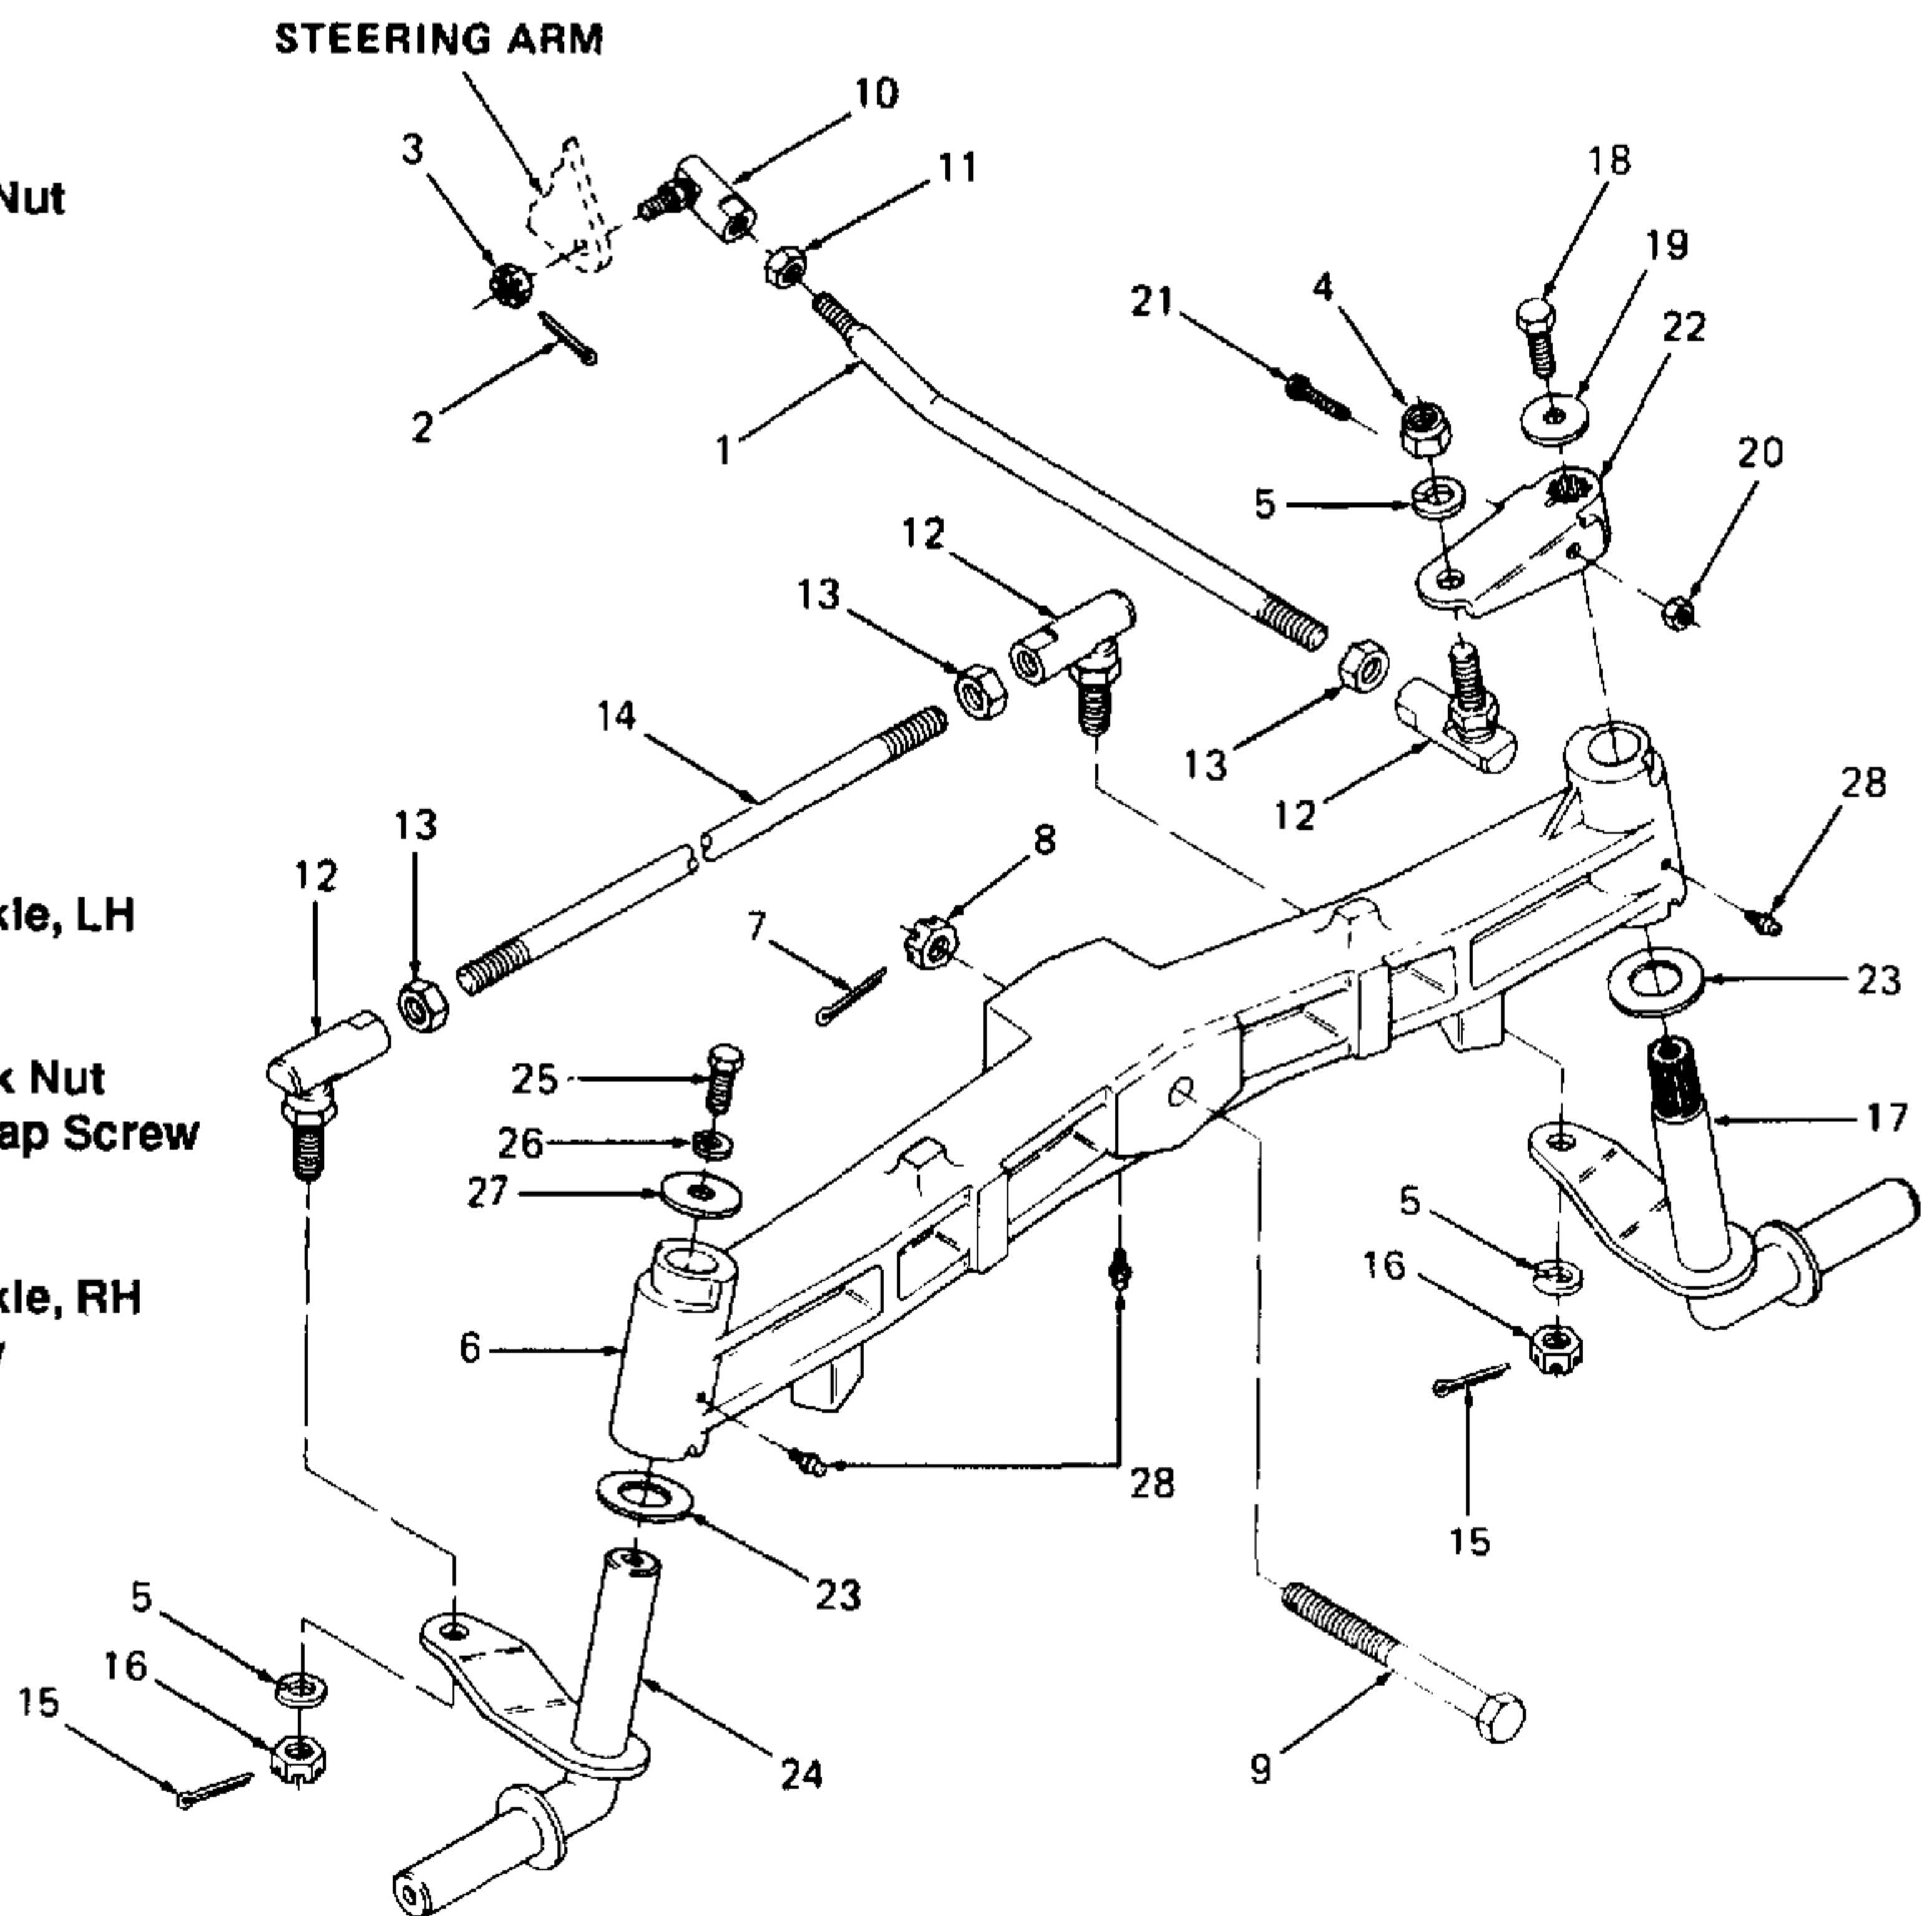

Figure 5-24. Front Axle and Connections (Models 1340, 1535, 1541 and 1860).
3. Remove drag link (1, Figure 5-24) as follows:
- a. Remove drag link from steering arm by removing cotter pin (2) and hex castle nut (3).
- b. Remove drag link from steering arm (22) by removing hex top lock nut (4) and lock washer (5).